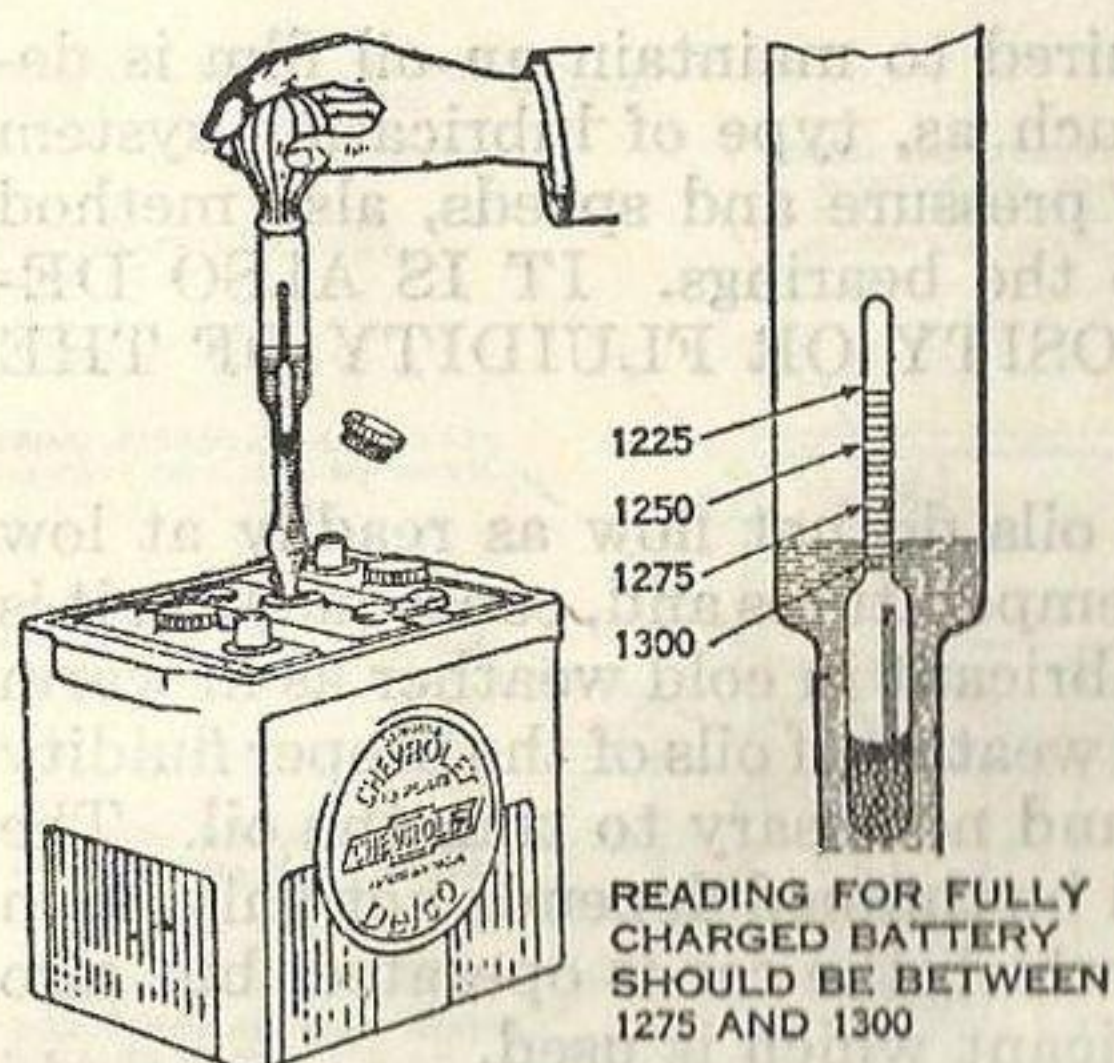

Fig. 35—Storage Battery
1st—Exhausted battery, due to excessive use of the starting motor or lights, and is the direct result of failure on the part of the owner, in not observing the rules set forth for the care of the battery (Fig. 35).
- 4th —Prevent a discharged condition—test specific gravity every two weeks with the hydrometer, as shown in Fig. 35, and avoid excessive use of the starting motor, excessive night driving and short, low speed driving, particularly in winter time.